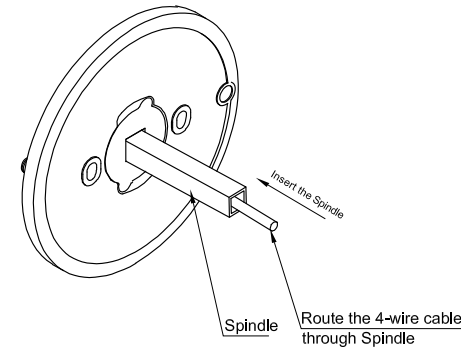

Fig. 5
2. Insert the spindle into the Entrypad Base (Fig.5)